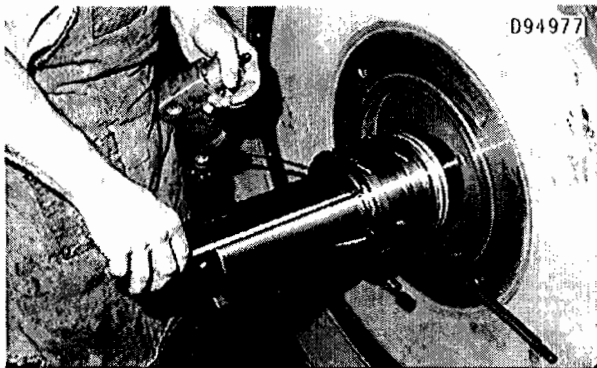

Figure 17
4. Tap down each half of the inner race and clamping rings all around the shaft, placing a fiber or hardwood block between hammer and bearing parts. Retighten screws. Repeat until the screws are fully tight. Make sure that the rings are hard against the race shoulders all around. There should be a gap at the joints of the seating. It may be helpful to place shim stock in the tightening. The total gap is not critical provided the shaft is within the required tolerance (126.97 to 127 mm), 4.999 to 5.000 inches. Make sure the placement of the inner race is the same measurement as recorded earlier. See figure 17.